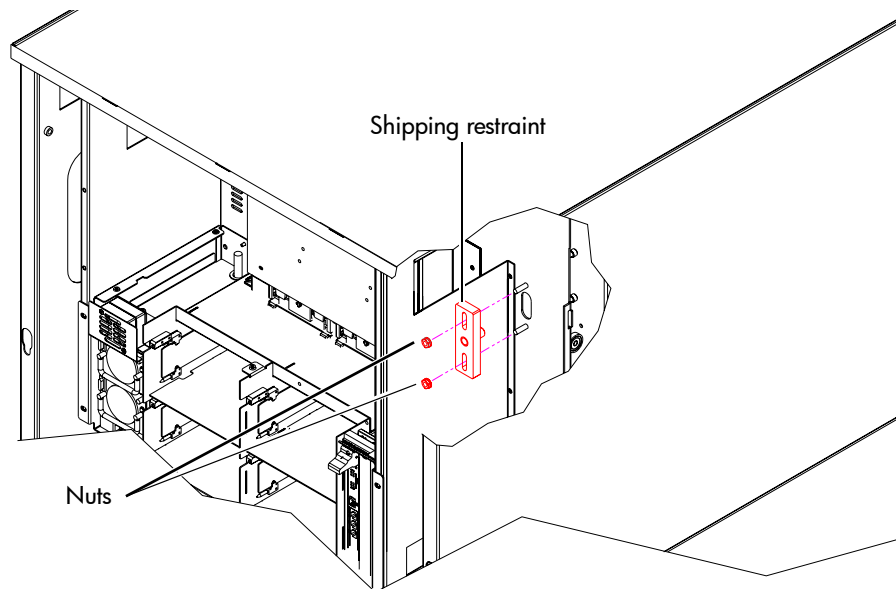

Figure 42: Installing the counterweight shipping restraint
6. Install the counterweight (see Figure 42).